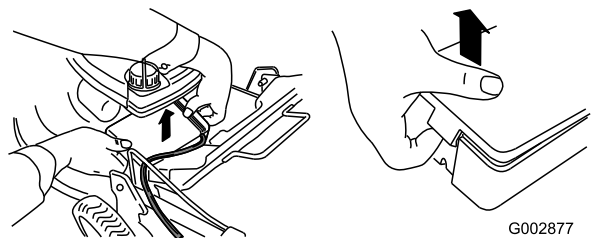

Figure 9
1. Unclip both ends of the battery cover and remove it (Figure 9).